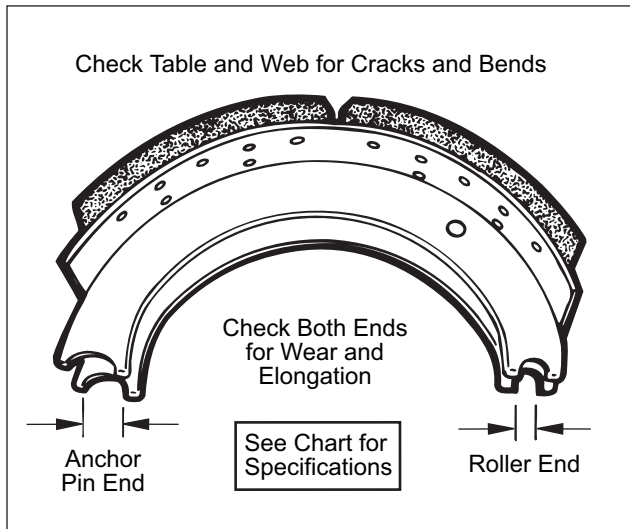

Figure 36. Shoe and Lining Inspection
1. Check shoes for bent or cracked webs, or table, broken welds, loose rivets or elongated rivet holes. Refer to Figure 36. If any are found, replace with Bendix OEM grade lining and shoe assemblies.